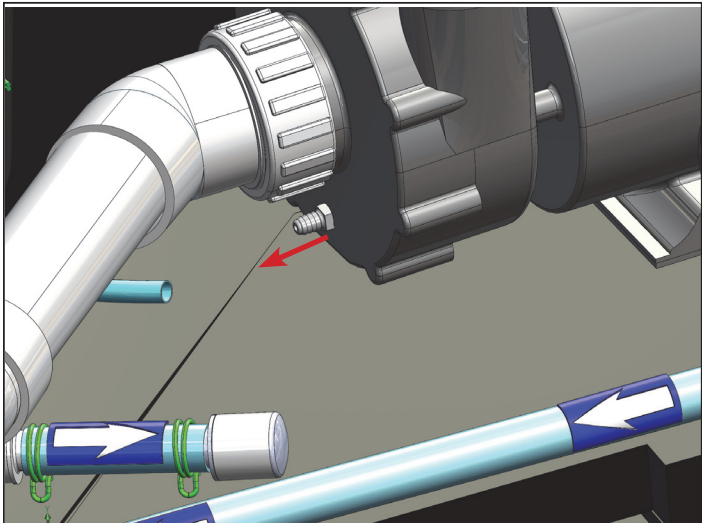
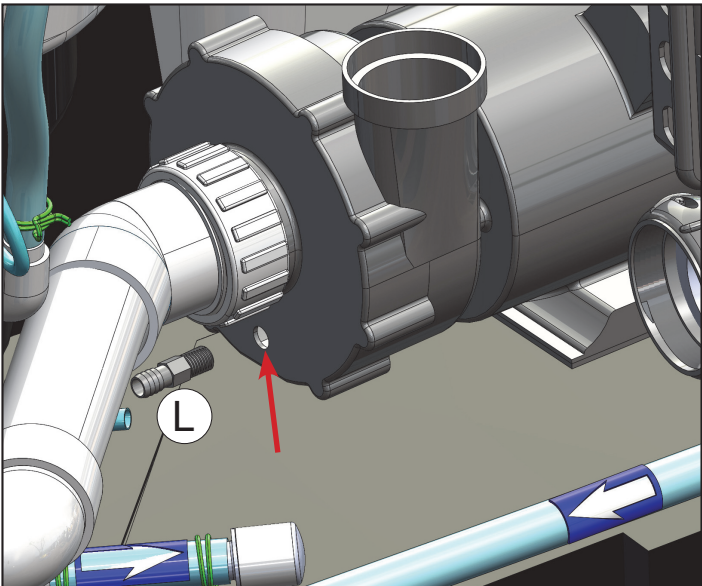

Figure 2.2
Figure 2.3
3. Remove the factory installed 3/8" drain nipple from front of jet pump (Figure 2.2).
4. Locate (L) 1/2" Drain Nipple that comes with kit and add silicone to the thread part of the drain nipple.
5. Insert 1/2" Drain Nipple (L) into jet pump drain located in the front of the jet pump (Figure 2.3).